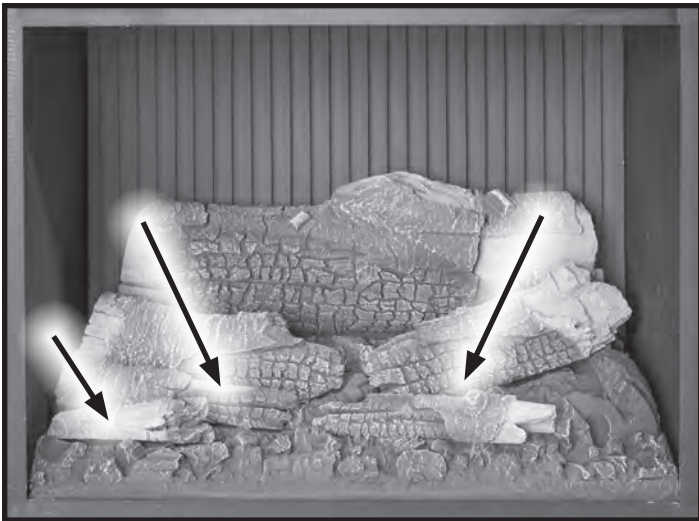

Figure 44. Front Ember Bed Logs.
5. Install the front three ember bed logs as shown in Figure 44. Note the locating notches on the backside of the logs. The depressions in the ember bed only allow the logs to be installed one way.